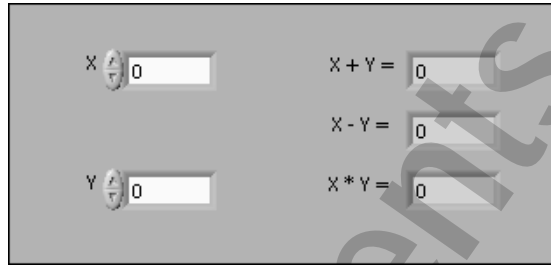

Figure 3-2. Simple Math.vi Front Panel
4. Build the front panel shown in Figure 3-2.